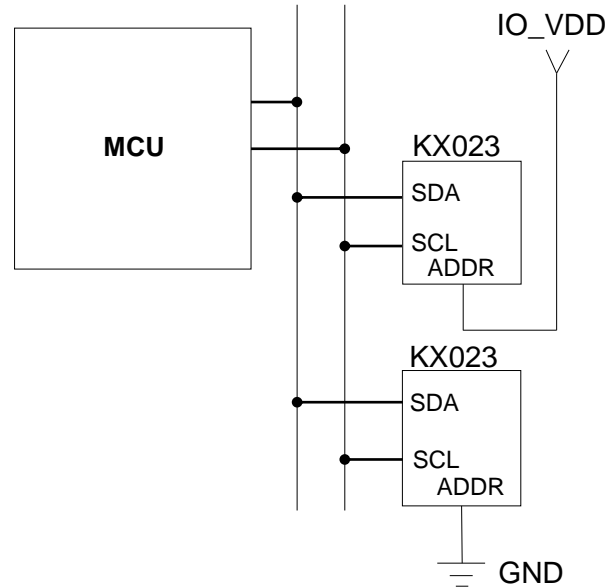

Figure 1: Multiple KX023 I²C Connection
Transactions on the I²C bus begin after the Master transmits a start condition (S), which is defined as a high-to-low transition on the data line while the SCL line is held high. The bus is considered busy after this condition. The next byte of data transmitted after the start condition contains the Slave Address (SAD) in the seven MSBs (Most Significant Bits), and the LSB (Least Significant Bit) tells whether the Master will be receiving data '1' from the Slave or transmitting data '0' to the Slave. When a Slave Address is sent, each device on the bus compares the seven MSBs with its internally stored address. If they match, the device considers itself addressed by the Master. The KX023's Slave Address is comprised of a programmable part and a fixed part, which allows for connection of multiple KX023's to the same I²C bus. The Slave Address associated with the KX023 is 001111X, where the programmable bit, X, is determined by the assignment of ADDR (pin 7) to GND or IO_VDD. Figure 1 above shows how two KX023's would be implemented on an I²C bus.